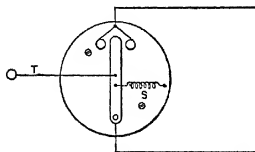

FIG. 150. Open-circuit trap.
In an open-circuit system, a modification of this device is used as shown in Fig. 150.
**Prob. 19-7.** Make a diagram of a simple burglar-alarm system using the device of Fig. 150 for a "trap."